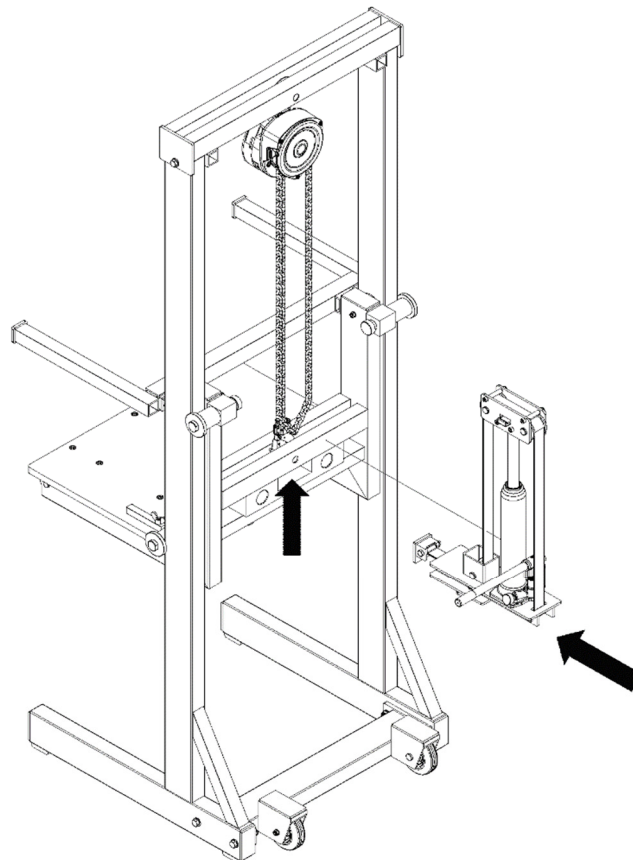

Fig. 6
- 7.6 The next step is to place the hoist unit into the guide bearing of the forked frame as shown in Fig. 6.